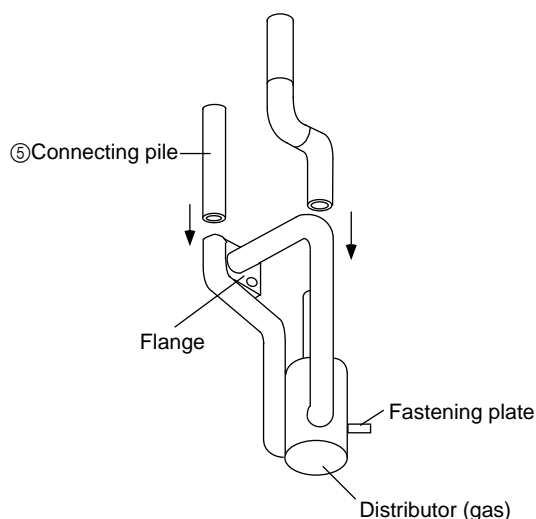

Fig. 5
- (3) Braze the connecting pipe (⑤) and connecting piping assembled in step (2) to the distributor (gas) outside the unit. For assembly procedure, see Fig. 5. When brazing piping, cool the brazed portion of the distributor side piping with a dampened waste cloth to prevent heating by brazing.